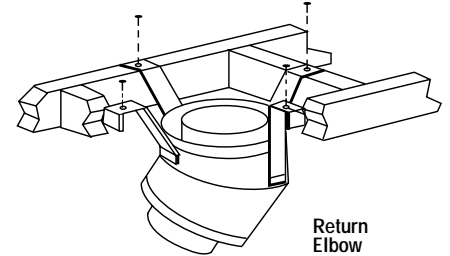

Figure 41
Step 5. Secure support straps to framing members by nailing under tension in shear (Figure 41).